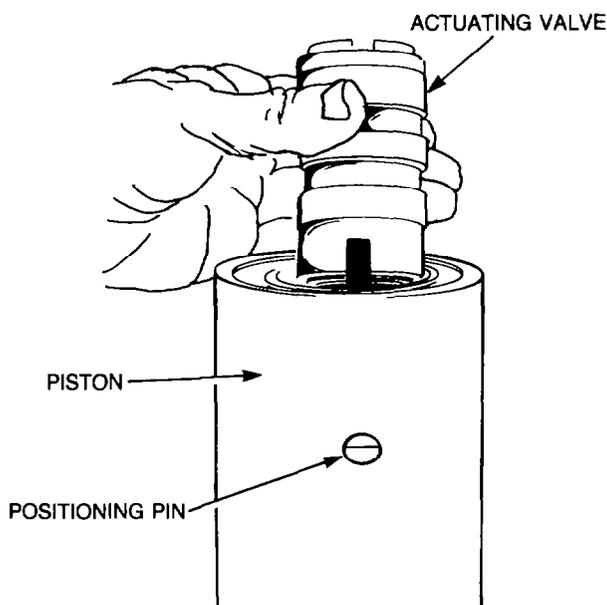

Figure 289 — Actuating Valve Installation
- m. Install the actuating valve in the piston (see Fig. 289), ensuring that the long locating slot in the actuating valve is in line with the positioning pin. If necessary, gently rotate the valve positioning pin a few degrees in both directions to help line up the flats on the pin with the slot in the valve. If the valve will not fully engage the pin, remove the valve and unscrew the pin half a turn.